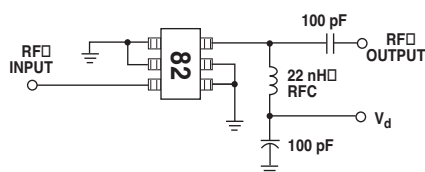

Figure 10. Test Circuit.
1. Guaranteed specifications are 100% tested in the circuit in Figure 10 in the Applications Information section.
The circuit shown in Figure 10 is used for 100% RF testing of Gain and Noise Figure. The test circuit is merely a 50Ω input/output PC board with a RFC at the output to apply DC bias to the device under test. Tests in this circuit are used to guarantee the  $NF_{\text{test}}$  and  $G_{\text{test}}$  parameters shown in the table of Electrical Specifications.
Like other active devices, the intermodulation products of the MGA-82563 increase as the device is driven further into nonlinear operation. The 3rd, 5th, and 7th order intermodulation products of the MGA-82563 are shown in Figure 18 along with the fundamental response. This data was measured in the test circuit in Figure 10.
While the MGA-82563 is designed primarily for use in +3 volt applications, the internal bias regulation circuitry allows it to be operated with power supply voltages from +1.5 to +4 volts. Performance of Gain, Noise Figure, and Output Power over a wide range of bias voltage is shown in Figure 19. (This data was measured in the test circuit in Figure 10.) As can be seen, the gain and NF are fairly flat, but an increase in output power is possible by using higher voltages. The use of +4 volts increases the  $P_{1dB}$  by over 2 dBm.